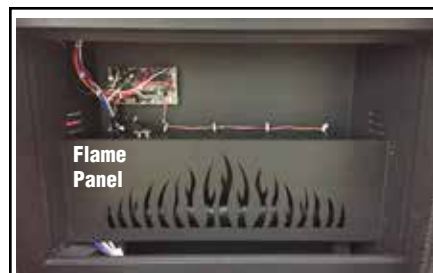

Figure 14
- ii. using a phillips screwdriver, remove the flame panel (see **Figure 14**).